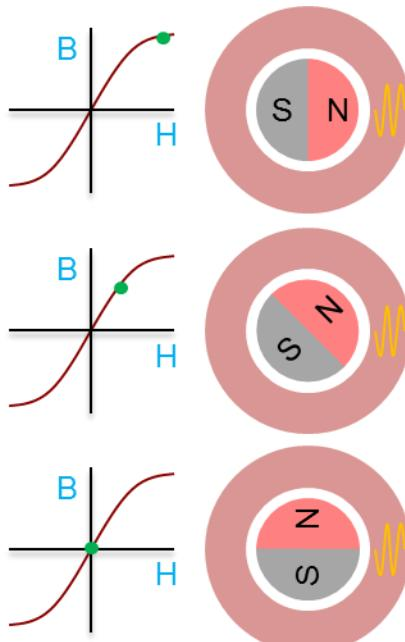

Figure 72: The permanent magnet of the rotor biases the BH curve of the stator iron which can be used to find the location of the north pole.
The magnetic field strength will bias the stator's BH curve operating point as shown in Figure 72. Supporting and opposing magnetic fields are applied with the stator coil. When both fields add, the BH curve is pushed further into saturation. The BH curve operating point moves further into the linear region when the magnetic fields oppose. The difference in inductance between these two BH curve operating points allows the motor controller to determine where the rotor north pole is located.
- As described in Figure 72, the magnitude must be large enough to put the BH curve of the stator iron into saturation. Caution must be exercised so the iron is not saturated too much. The figures below illustrate when the current is too high and just right.